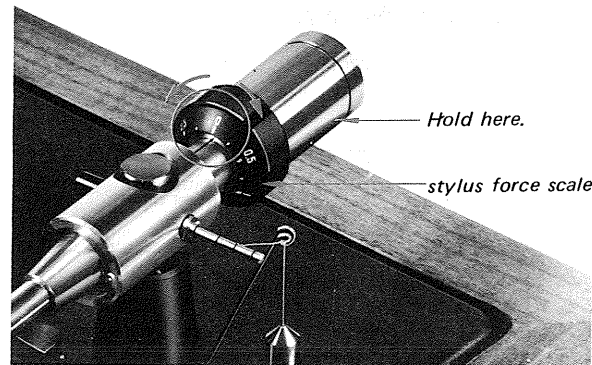

Fig. 3-11. Tone-arm balance adjustment
3. Horizontally balance the tone-arm by turning the counterweight at the rear of the tone-arm, and then set the stylus force scale "0" while holding the counterweight as shown in Fig. 3-11. Now the stylus force can be set by using this scale.